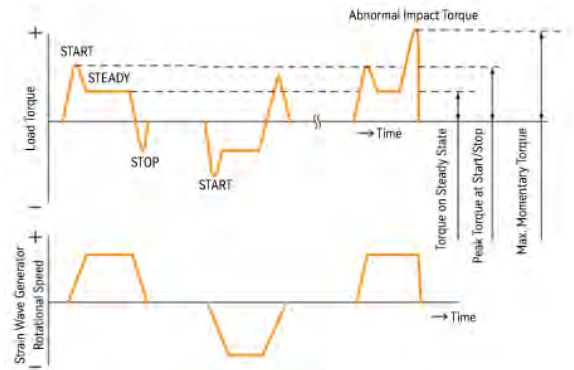

Figure 2-2 Example of Load Pattern
(1) **Permissible Peak Start Stop Torque (as shown in Figure 2-2):**
(4) **Permissible Maximum Momentary Torque (as shown in Figure 2-2):**